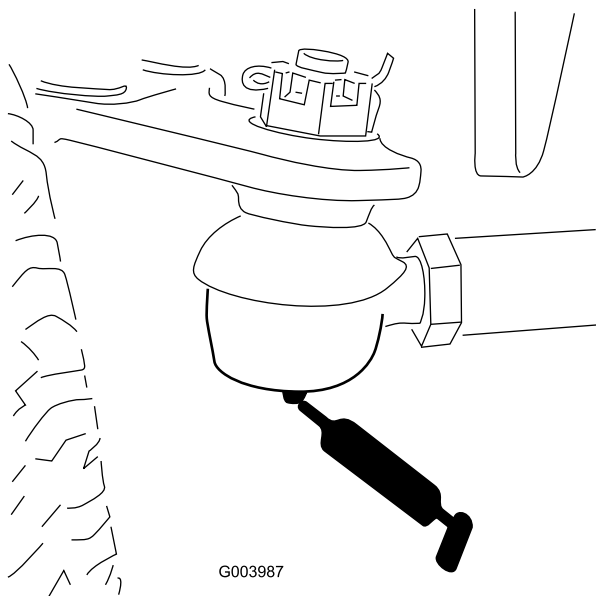

Figure 55
- Rear axle tie rod (2) (Figure 55)